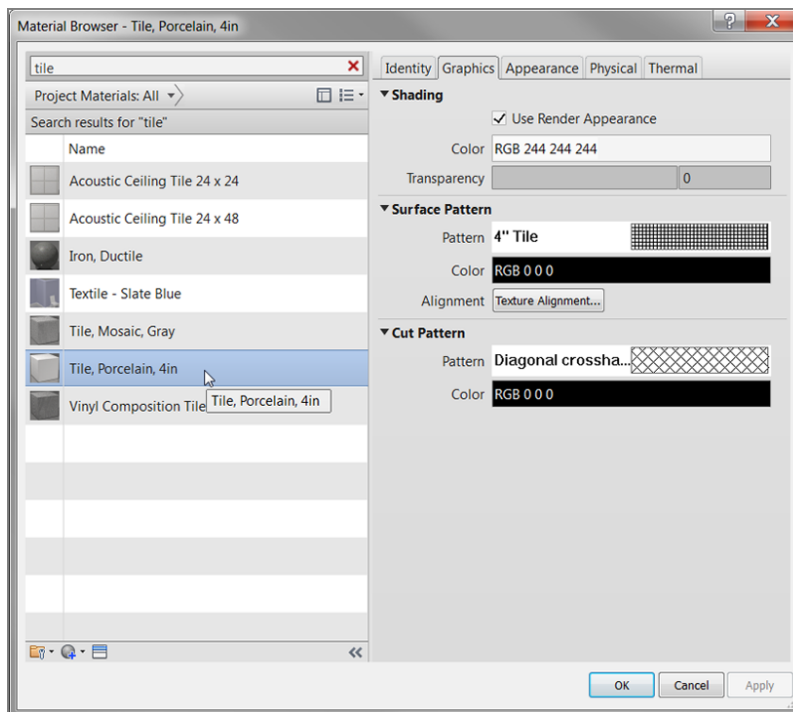

FIGURE 9.68: Grabbing some sweet tile
2. In the Material Browser, type tile in the search field at the top of the dialog box, as shown in Figure 9.68; scroll down; and select Tile, Porcelain, 4in (100mm).